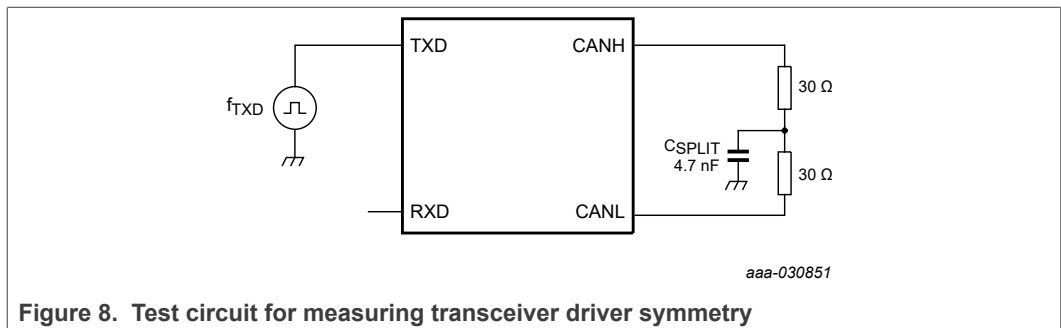

Figure 8. Test circuit for measuring transceiver driver symmetry
- [1] Only the TJA1057GT(K)/3 and TJA1057BT(K) variants have a V_{IO} pin; all circuitry is connected to V_{CC} in the other variants..
- [6] The test circuit used to measure the bus output voltage symmetry (which includes C_{SPLIT}) is shown in Figure 8.